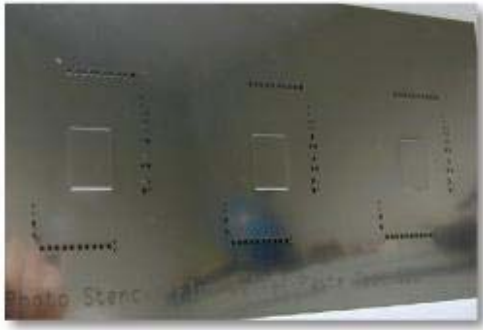

Figure 6: 3-D electroform stencil for paste printing with flux relief.
2. **Flip-chip/SMT mixed technologies.** There are applications when it is desirable to print flux or solder paste for a flip-chip component and solder paste for normal SMT devices. Both are then placed and run through the reflow cycle. Normally, the stencil thickness for the flip-chip printing is 1 to 2 mils thick; much too thin for normal SMT printing. Two-print stencils are ideal for this application. A thin (1- to 2-mil-thick) electroform is used to print either flux or solder paste on the flip-chip pad sites on the PCB. Then a SMT stencil (5 mils thick) is used to print solder paste on all SMT pads. This stencil has relief pockets formed on the contact side anywhere flip-chip flux or paste was previously printed. Figure 6 shows a 3-D AMTX electroform stencil that is 5 mils thick with 3-mil relief pockets formed on the contact side which is ideal for this application. This stencil has a formed step-up relief pocket. The height of the stencil in the flip-chip area is 8 mils (5 mil stencil thickness and 3 mil relief pocket).